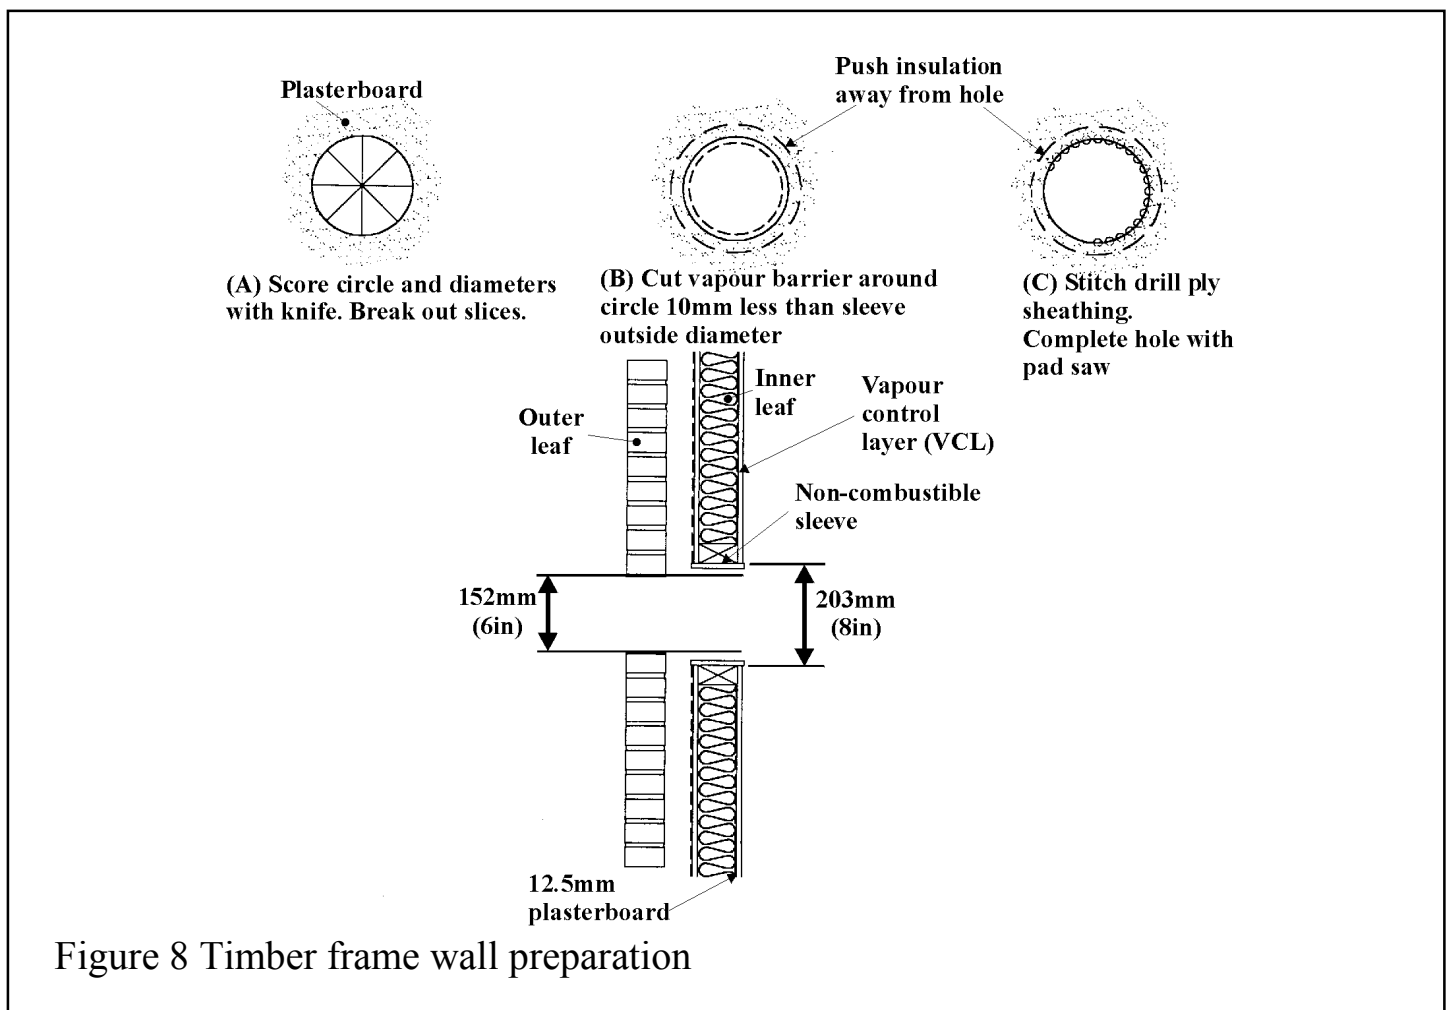

Figure 8 Timber frame wall preparation
- Since the flue will pass through combustible material in the inner leaf of the wall, a non-combustible sleeve 203mm (8in.) diameter will be required round the flue. See figure 8.
- Cut a hole through the inner leaf to accommodate a non-combustible sleeve 203mm (8in.) outside diameter. To minimise the effect of breaking through the vapour control layer (VCL), if possible, cut the hole approximately 10mm undersize so that the sleeve will be forced through the layer. A recommended technique for cutting the inner leaf is shown in figure 8.